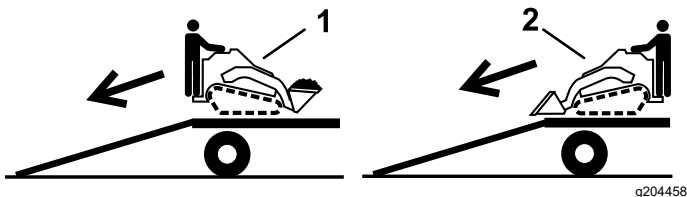

Figure 26
2. Unload the machine from the trailer with the heavy end up the ramp, carrying loads low (Figure 26).